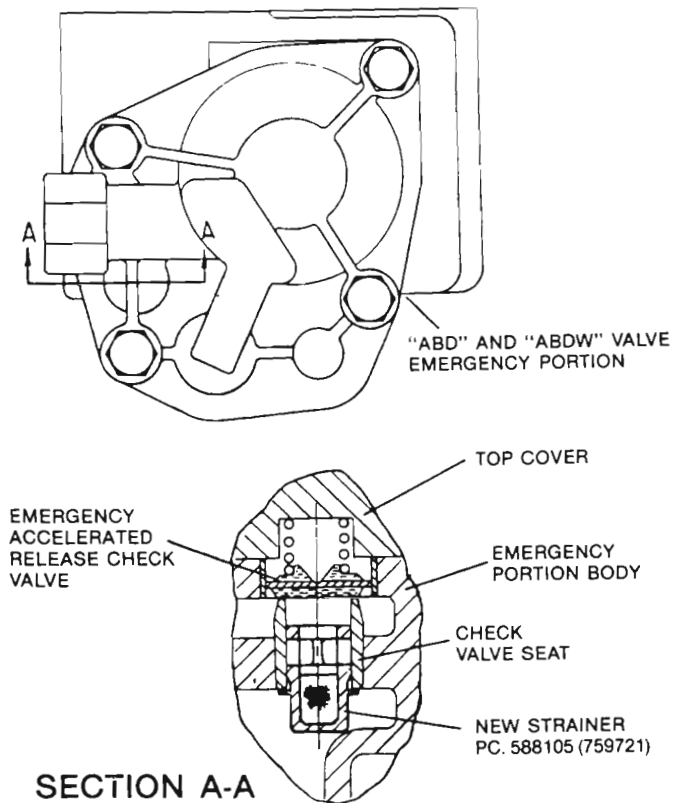

Figure 14.1
7.2.4 Insert strainer, PC. 588105 (759721), into the emergency accelerated release check valve seat until locked by tabs as shown in Fig. 14.1. (Ref. NYAB General Letter 410 or WABCO Service Bulletin 68-8)